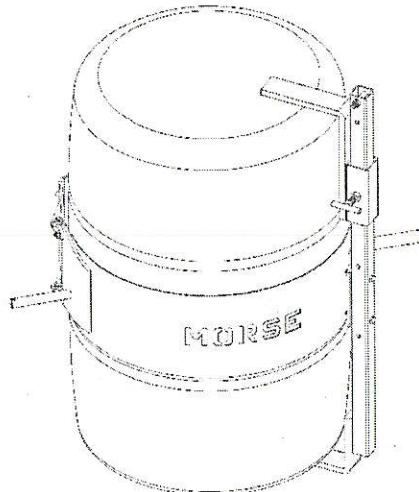

Figure 1
1. Position drum holder assembly so bottom bracket (item 5) rests on floor.
2. Loosen Tee handle (item 2) and slide hold down (item 1) up to highest position. Tighten tee handle.
4. Loosen tee handle and slide hold down to meet top of drum. Tighten Tee handle. (see Figure 1)